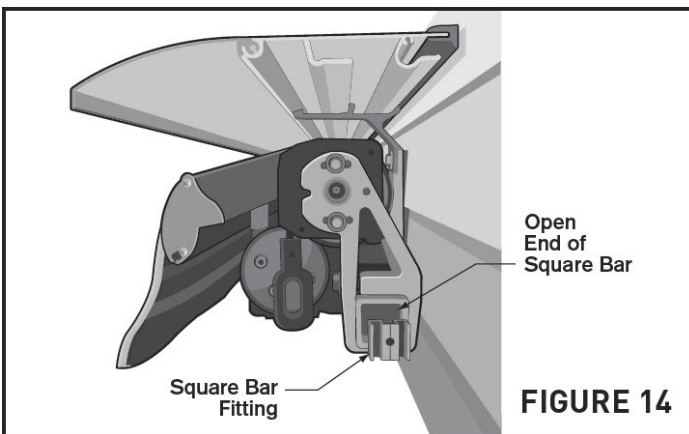

FIGURE 14
11. Install the Square Bar Fitting into the open end of the Square Bar with threads of the fitting facing out. Gently tap the fitting until it is flush with the end of the Square Bar. See **Figure 14**.